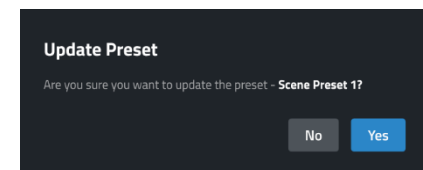

Figure 42: Update Scene Preset
- 3) Once you satisfy the changes you made, click on the "..." icon next to the Scene name and click on UPDATE from the menu, once you click the UPDATE button, a window will pop-up to ask for confirmation. See **Figure 42**.